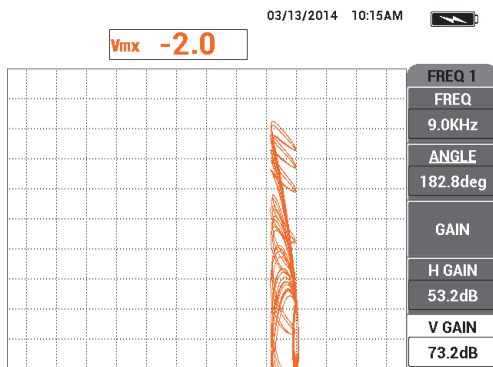

Figure 5-129 Adjusting the V GAIN value
25. While constantly moving the probe, increase the **V GAIN** (E key) until the mix signal is contained within the first vertical division above the null point (see Figure 5-129 on page 218).